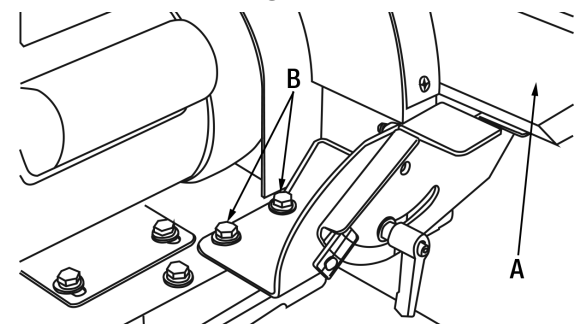

Figure 10
1. Make sure the sanding disc table (A) Fig.10 is set to 0°.
2. Loosen the four table adjustment hex. bolts (B), located on each side of the disc table.
5. Retighten the adjustment hex. bolts (B) once the disc table is set 1/16" from the sanding disc on both the left and right side.